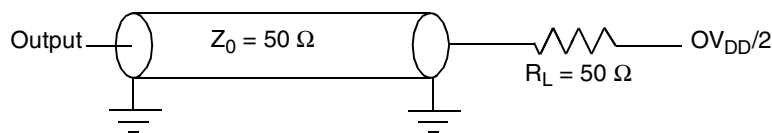
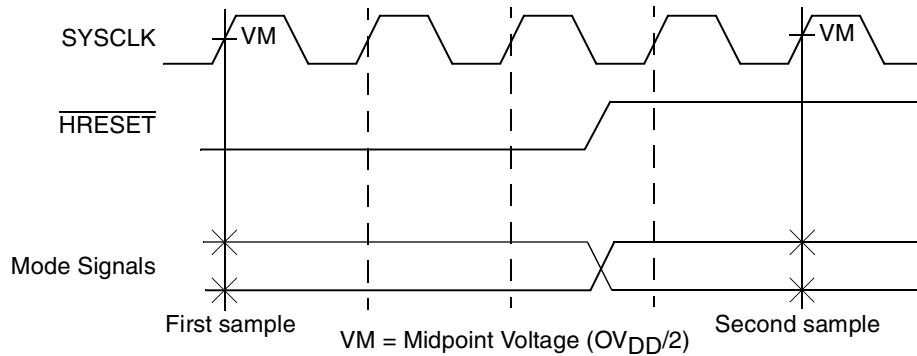

Figure 4. AC Test Load
Figure 5. Mode Input Timing Diagram
Table 8 provides the processor bus AC timing specifications for the MPC7410 as defined in Figure 4 and Figure 5. Timing specifications for the L2 bus are provided in Section 4.2.3, “L2 Clock AC Specifications.”
1. All input specifications are measured from the midpoint of the signal in question to the midpoint of the rising edge of the input SYSCLK. All output specifications are measured from the midpoint of the rising edge of SYSCLK to the midpoint of the signal in question. All output timings assume a purely resistive 50-Ω load (see Figure 4). Input and output timings are measured at the pin; time-of-flight delays must be added for trace lengths, vias, and connectors in the system.
2. The symbology used for timing specifications herein follows the pattern of $t_{(\text{signal})(\text{state})(\text{reference})(\text{state})}$ for inputs and $t_{(\text{reference})(\text{state})(\text{signal})(\text{state})}$ for outputs. For example, t_{VKH} symbolizes the time input signals (I) reach the valid state (V) relative to the SYSCLK reference (K) going to the high (H) state or input setup time. And t_{KHOV} symbolizes the time from SYSCLK(K) going high (H) until outputs (O) are valid (V) or output valid time. Input hold time can be read as the time that the input signal (I) went invalid (X) with respect to the rising clock edge (KH)— note the position of the reference and its state for inputs—and output hold time can be read as the time from the rising edge (KH) until the output went invalid (OX).
4. Includes mode select signals: BVSEL, EMODE, L2VSEL. See Figure 5 for mode select timing with respect to $\overline{\text{HRESET}}$.
Figure 4 provides the AC test load for the MPC7410.
Figure 5 provides the mode select input timing diagram for the MPC7410. The mode select inputs are sampled twice, once before and once after HRESET negation.